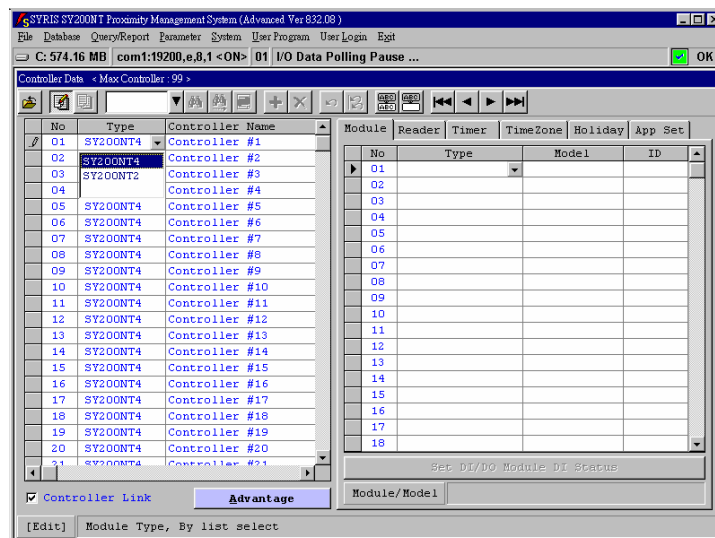

Fig.3-1 Controller Data Master Screen
Click the "Database (D)" on the Master Menu and select "Controller Data (C)" Wait for the next menu (Fig.3-1) and Click "Edit Record Mode" icon for setting.